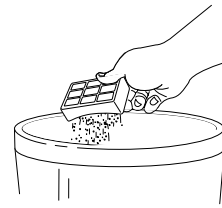

Fig. 27
- 3 Turn the filter over so that the dirty side is on the bottom and vigorously tap it clean against a garbage can to remove any dust. (Fig. 27)